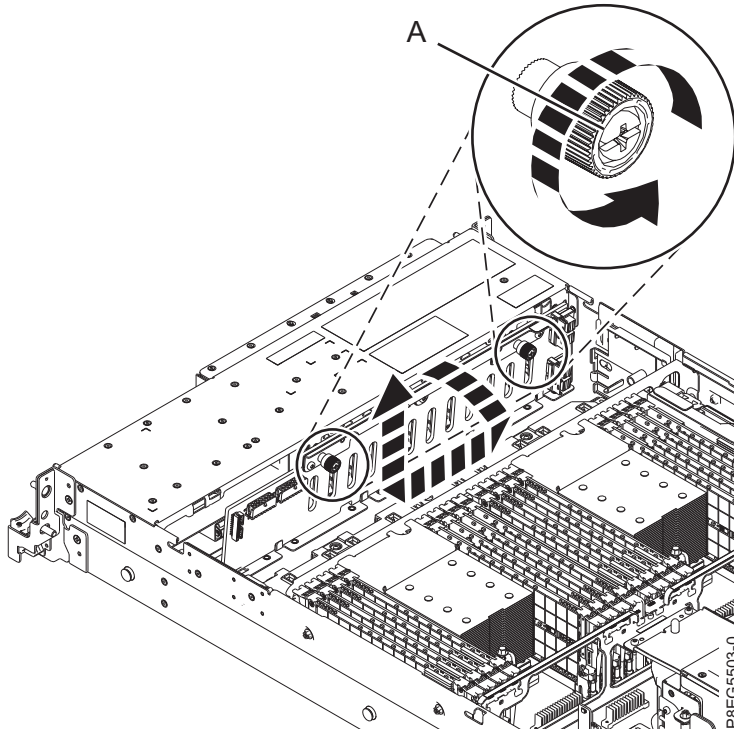

Figure 5. Removing the disk drive backplane
7. Carefully unscrew each of the disk drive backplane's captive thumbscrews (**A**) until fully loose as shown in Figure 5 on page 7.
8. Tilt the disk drive backplane in the direction that is shown in Figure 5 on page 7, then slide it to the side so that the backplane cutouts clear the tabs in the chassis.